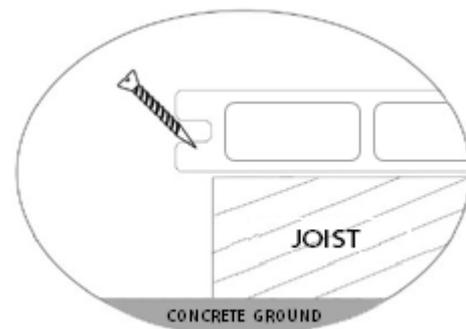

Figure 3
1. See Figure 3 in order to follow the expansion play.